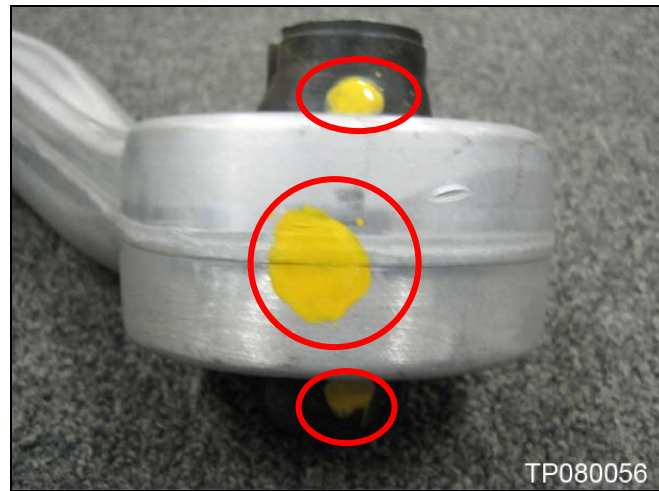

Figure 22
12. Mark the bushing and compression rod as shown in Figure 22.